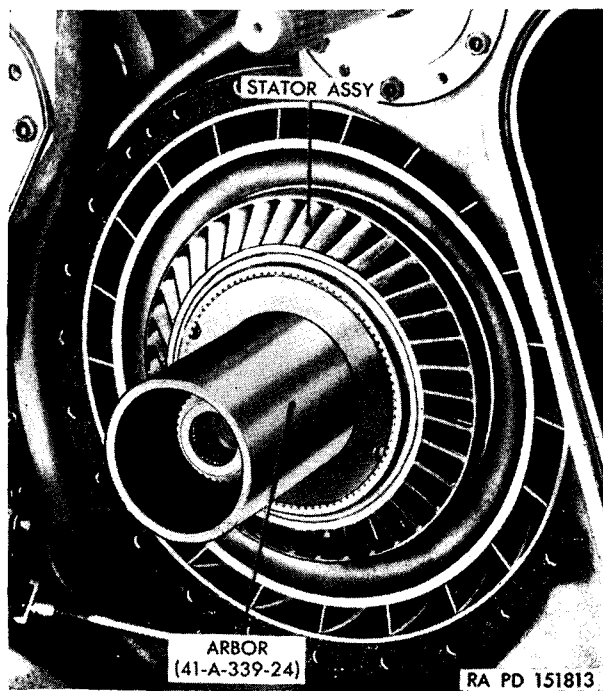
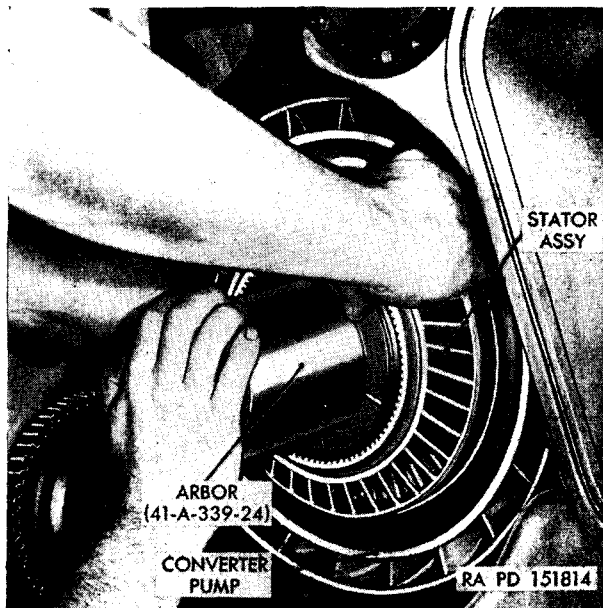
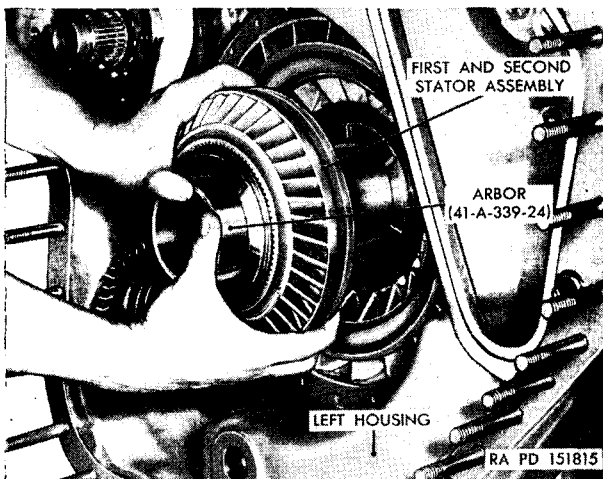

Figure 74. Arbor installed.
Figure 75. Pulling stators onto arbor.
Figure 76. Removing or installing statorpack.
- (7) Insert the arbor (41-A-339-24) into the converter ground sleeve (fig. 74). Holding the stator pack and the converter pump together, and keeping the arbor in place, pull out the stator pack until it is well onto the arbor (fig. 75). Push the converter pump back into place and remove the stator pack and arbor as a unit (fig. 76).